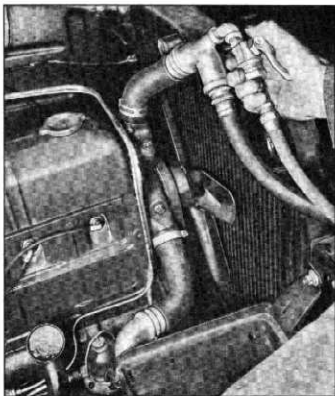

Fig. 122—Reverse Flushing Block and Head
3. Turn on the water and when the engine water jacket is full turn on the air in short blasts (fig. 122).